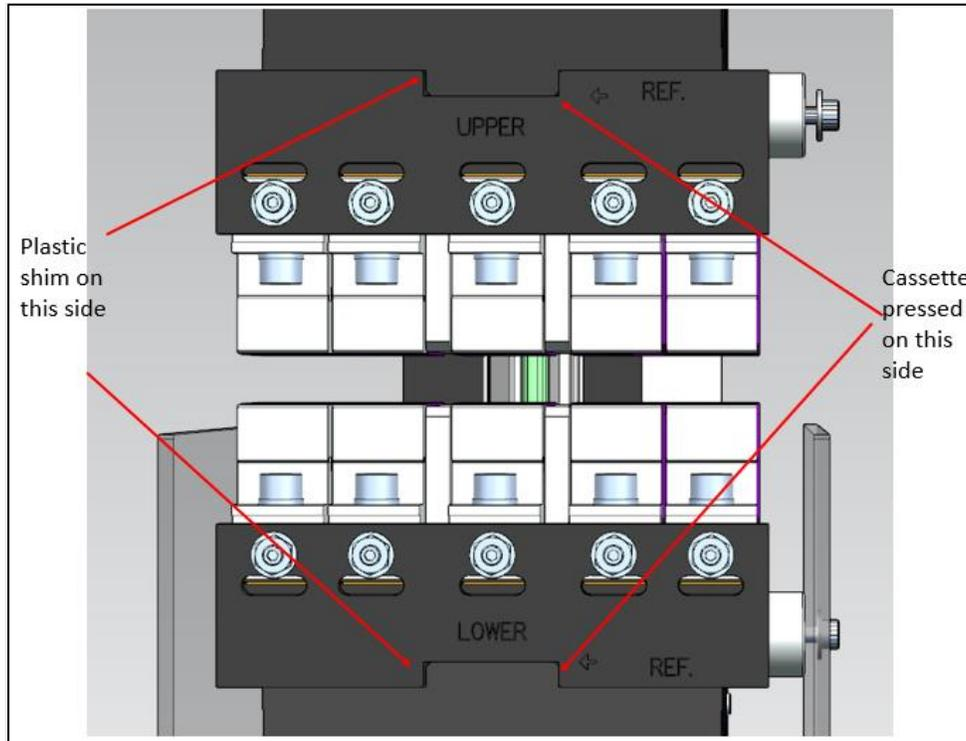
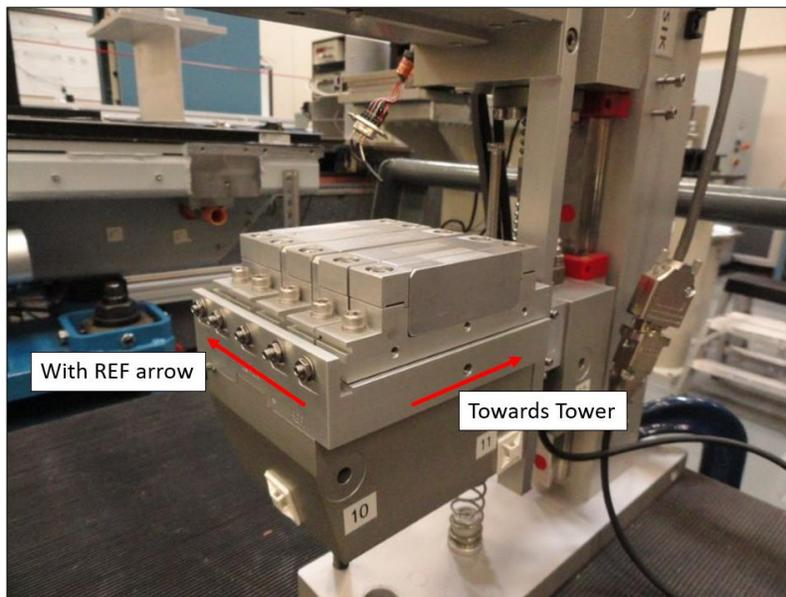

Figure 6: Direction to press/push cassette for mounting (front view)
Figure 7: Direction to press/push cassette (different view)
- Refer to the image below. Press the cassette on the side indicated by "Ref." (i.e., **towards left** of the page with the arrow) and against the tower (**into the page**). Meanwhile, hand-tighten the six M6x40 screws from top or underneath the cassette. See Figure 6 and Figure 7.